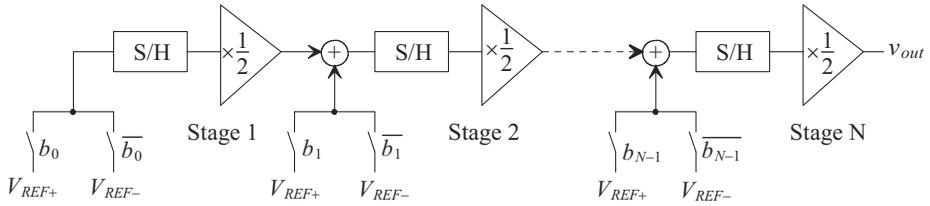

Figure 30.82 A pipeline digital-to-analog converter.
30.25 Figure 30.82 shows the implementation of a pipeline DAC. How would we implement this DAC using a topology similar to Fig. 30.42? Sketch the DAC's implementation and the timing signals (clock phases) used.